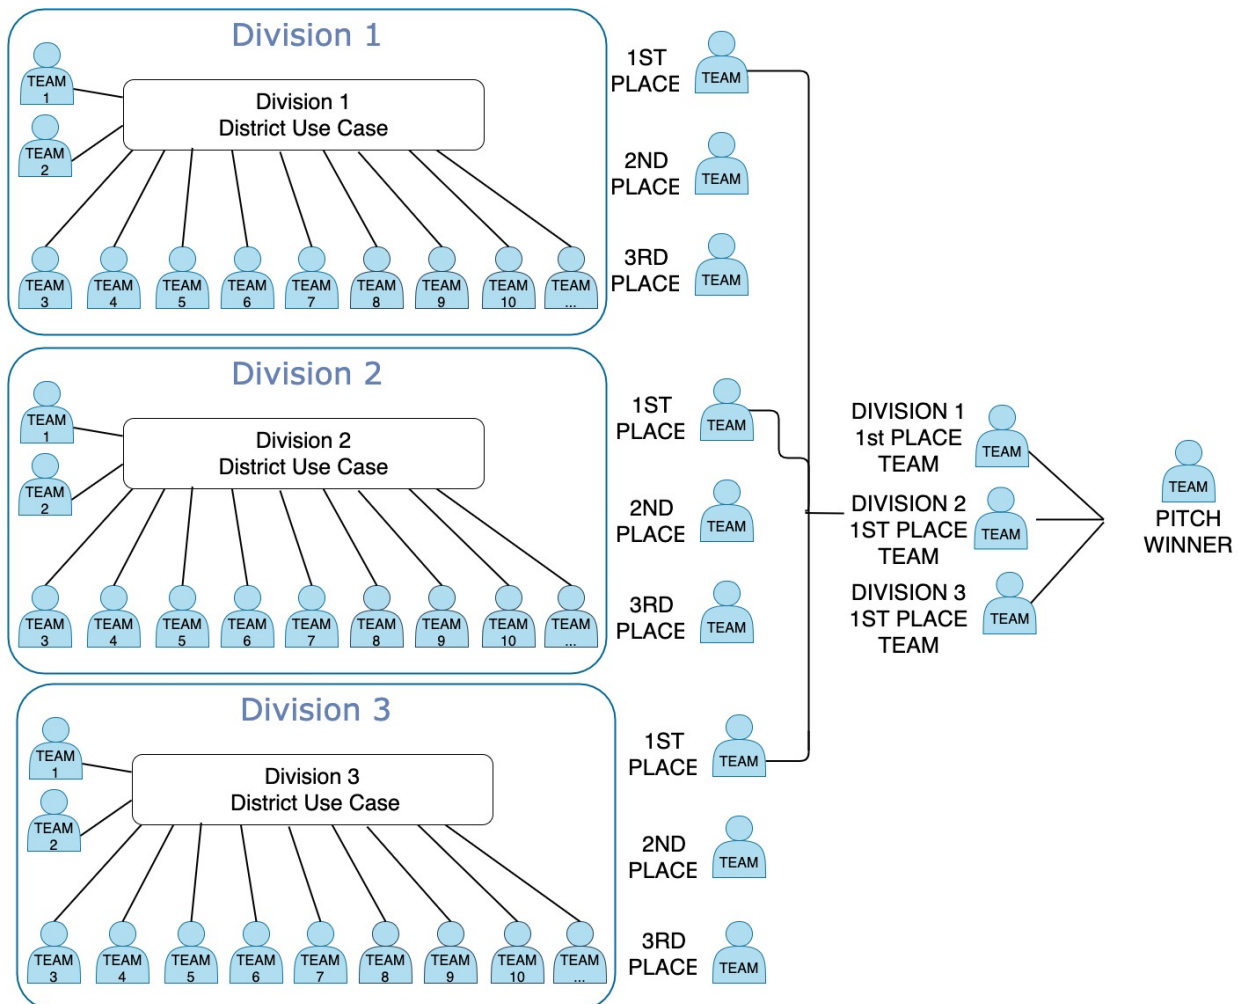

Figure 1. Division and competition process
9. The first-place winner of each division presents an 8-minute project proposal pitch at the final event. Final event attendees select a Proposal Pitch winner from among the presenting teams. The presentations are open to the public and promoted to industry, increasing the recognition of the top teams. The division and competition process is illustrated in Figure 1.